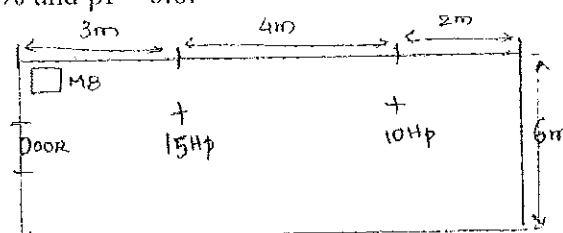

Fig. Q5(b)
- b. Two ac, 3phase, 415V, 50Hz squirrel cage motors are to be installed in a workshop. The rated outputs of the motors and their locations are as shown in the Fig. Q5(b) γ - Δ starters supplied with each motor are to be installed on the wall. The supply company's meter will be located at the position marked. The wiring of the machine is to be carried out according to IE rules. Make a neat sketch of the wiring scheme with the help of a single line diagram indicating on the wiring diagram the number and size of cables used. Prepare a list of material required for the wiring including the necessary earthings. Assuming efficiency 85% and pf = 0.8. (14 Marks)